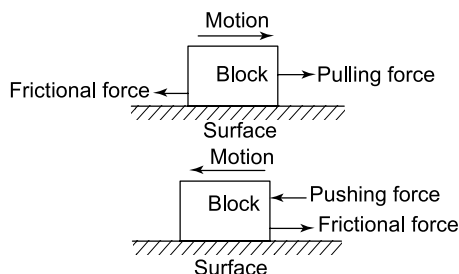

Figure 17.1
- (iii) The direction of the frictional force is always opposite to the direction of motion. Thus the frictional force opposes motion, as shown in Figure 17.1.